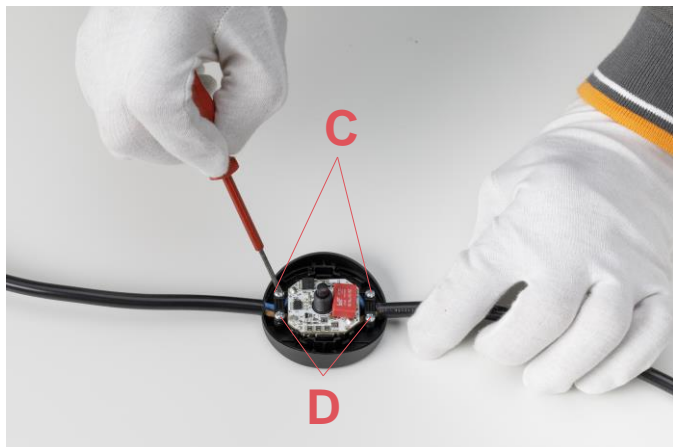

Fig.3
Lock the electrical cables by fastening the screws (C) of the cable clamps (D) and ensuring to lock the isolation of the electrical cable.(Fig.3)